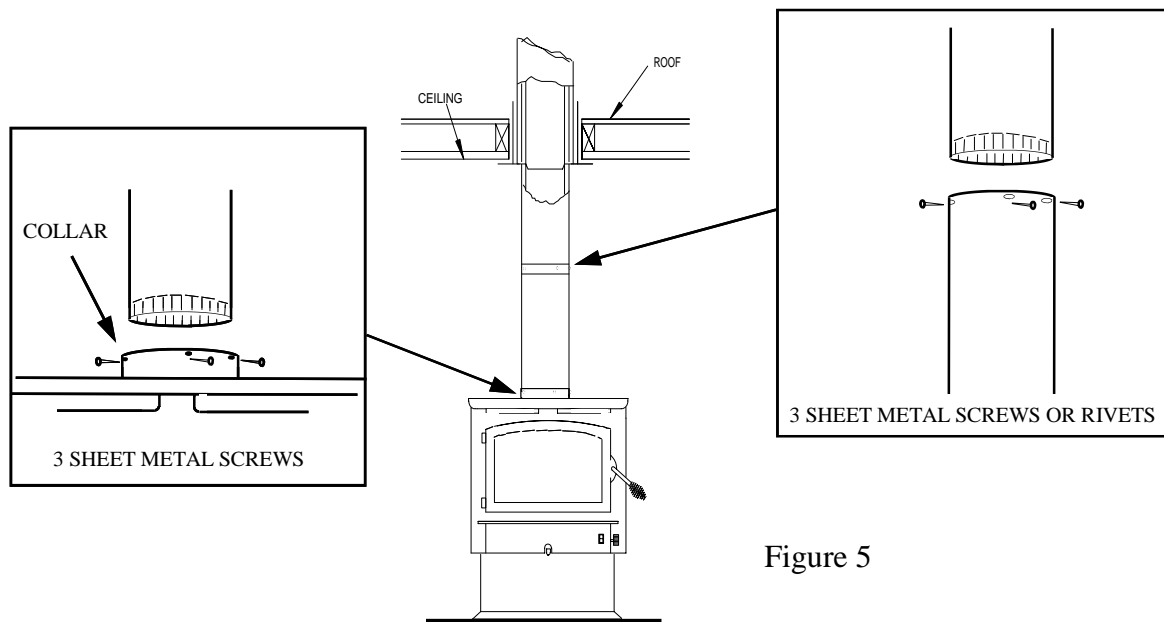

Figure 5
3. Now connect stove and ceiling support box using #24 ga. minimum blue or black steel connector pipe (**DO NOT USE GALVANIZED PIPE**). Connect each section so crimped end faces downward and secure each section to each other using at least three (3) sheet metal screws or rivets. Also use three (3) sheet metal screws to fasten pipe to collar on heater. (See Figure 5. Page 16).